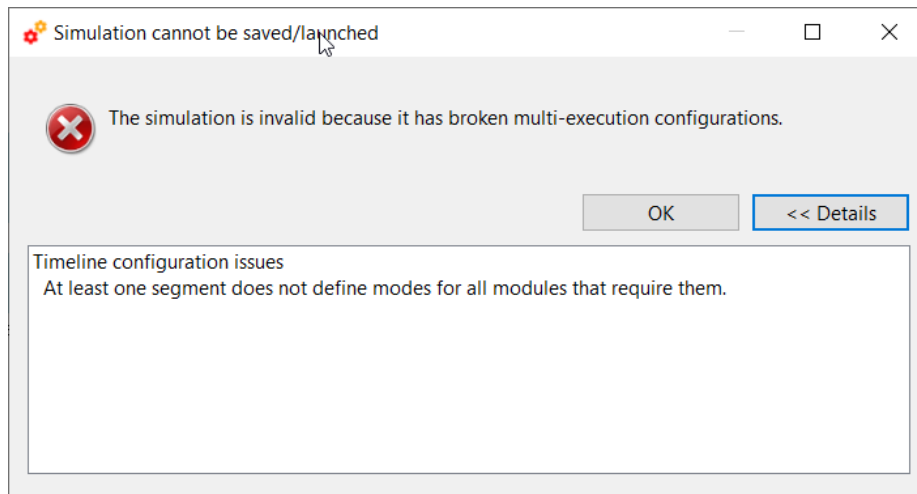

Figure 4-107: Execution prevented due to configuration issues
- ❑ If any parameter has been added or deleted from the configuration files of any active module involved in the simulation, the execution will not be carried out, and a dialog will be displayed listing the configuration issues as shown in Figure 4-107. See section 4.4.2.6 for details.